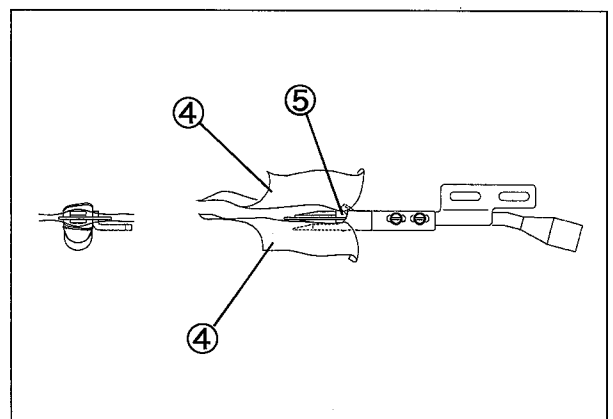

Fig. 17
- (2) Set the material ④ as shown in Fig. 17.